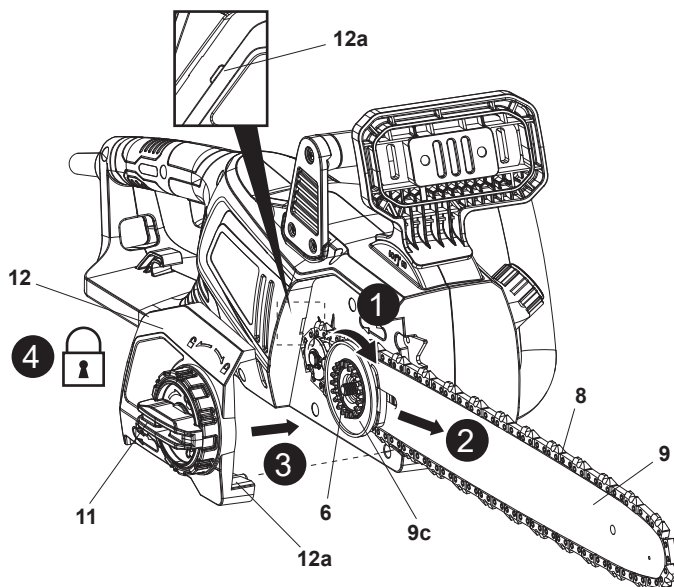

Fig. 5
7. Rotate the turning wheel (9c) clockwise to adjust the guide bar (9) towards the right to tighten the saw chain (8) (Fig. 5, steps 1, 2), then align and place the chain saw cover (12) over the mounting bolt (6) (Fig. 5, step 3).
8. Refit the chain saw cover (12) and slightly tighten the locking wheel (11) clockwise (Fig. 5, step 4). Ensure that the two spigots (12a) engage correctly in the corresponding slots.